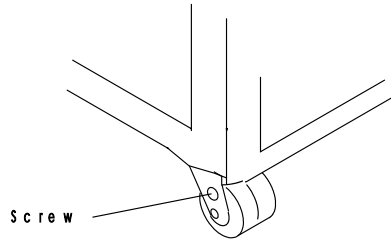

Figure 4-3. Caster Lock Screw
- Step d. \_\_\_\_ Move the 3746-900 to its final resting position and open the front and rear doors. Tighten the caster lock screws on the front wheels (see Figure 4-3 on page 4-5).
- Step e. \_\_\_\_ Move the 3746-900 to its final resting position and open the front and rear doors. Tighten the caster lock screws on the front wheels (see Figure 4-3).
Step e. \_\_\_\_ Move the 3746-900 to its final resting position and open the front and rear doors. Tighten the caster lock screws on the front wheels (see Figure 4-3 on page 4-5).